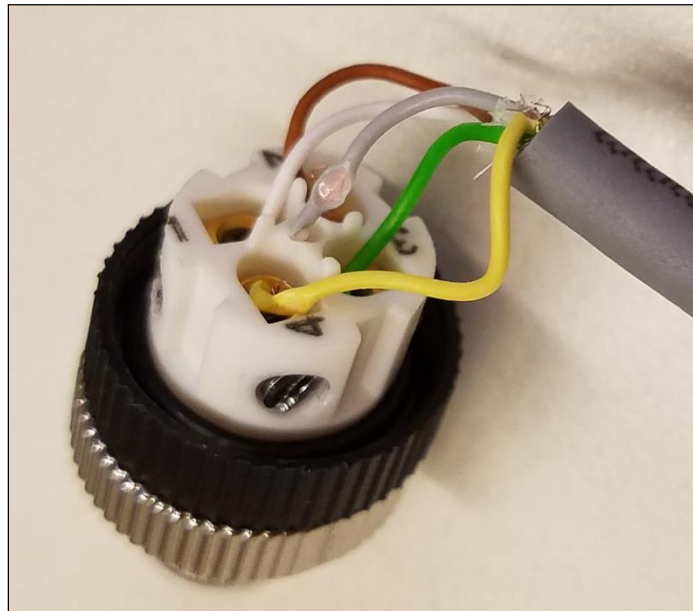

Figure PH018-7 – Completed Assembly
10. The completed assembly should look like Figure PH018-7.